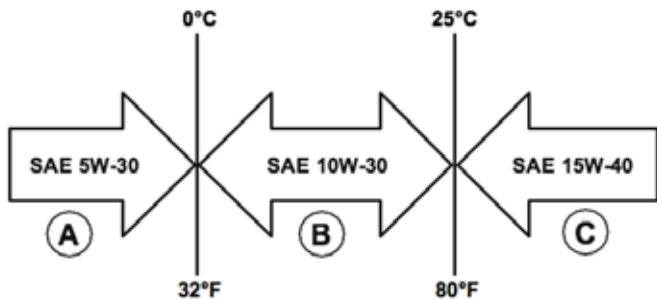

Figure 9: Recommended oil
1. Only use the engine oil specified in Figure 9.
6. Select the proper engine oil as specified in Figure 9.